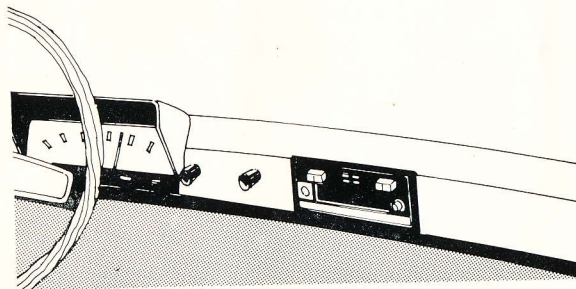

Fig. 5
Put into the dash-board as shown in the Figure 5. The metal fitting bolts ② on both sides of the set can be taken off.